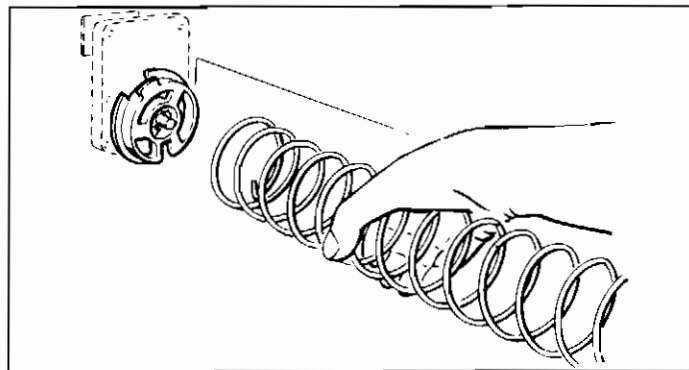
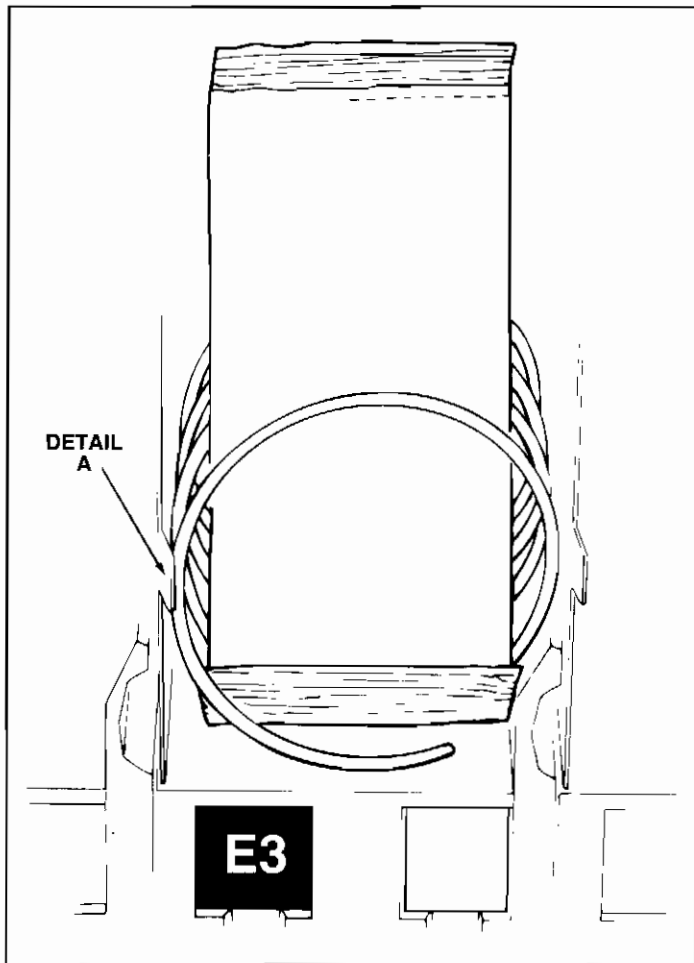

Figure 3. REMOVING AND INSTALLING SPIRAL.
Figure 5. PLACEMENT OF PRODUCT ON MAIN PRODUCT CANDY SHELVES AND FRONT END POSITION OF SPIRAL.
4. REMOVAL OF SPIRAL: Grasp the front of the spiral and turn it clockwise. Lift the spiral up and off of the spiral lock. When replacing a spiral attach it around the tab on the spiral lock and turn the spiral counterclockwise to lock it in place. Be sure the front end of the spiral is positioned properly (with the front end of the spiral pointing downward on the left side) (see Figure 3). The spiral lock is attached between the spiral retainer tabs. Give a light forward pull on front of the spiral to check it is locked in place.
6. **LOADING MAIN PRODUCT CANDY SHELVES:** The 8-selection (candy type) shelves are loaded similar to the 4-selection shelves except that the bottom of the product sits on the shelf in front of the spiral wire (see Figure 5) that rests on the shelf. These products must also fit properly product in the spiral space; do not force product into spiral.
These spirals are removed and installed the same as the large spiral (see Figure 3), except that the front end position is different (approximately 5 o'clock) (see Figure 5) and the front left side of the spiral must be behind the small tab located on the left side of the product space side wall (see Figure 5, Detail A).